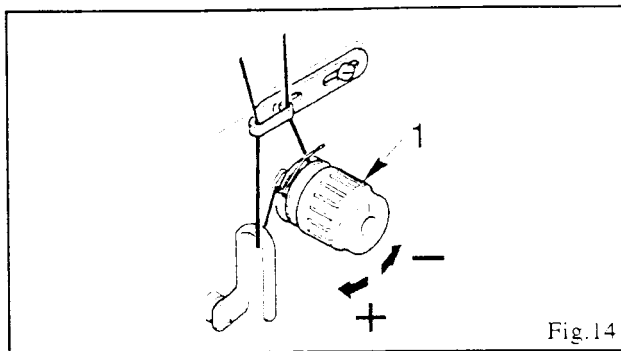

Fig.14
Regulate needle thread tension with tension regulating thumb nut (1) as shown in Fig. 14.